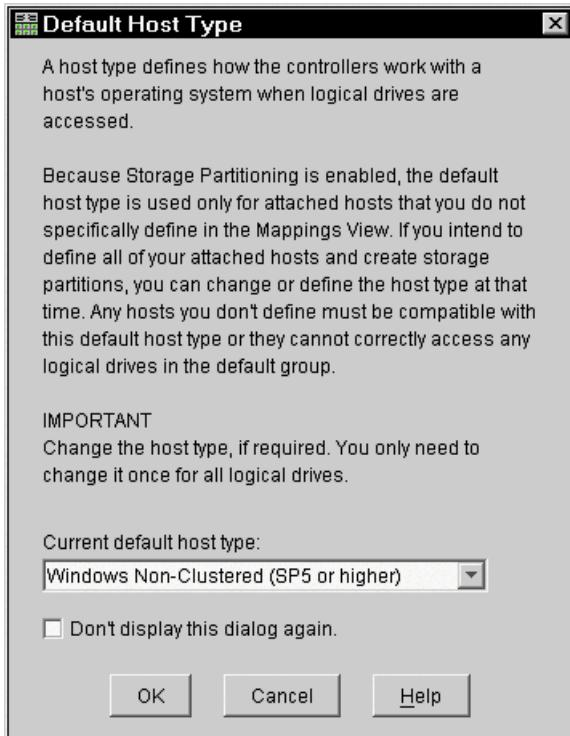

Figure 4-31 Default Host Type window
- a. If this is the first time you are creating a logical drive from this instance of the FAStT Client, the window shown in Figure 4-31 appears. The Current default host type should be set to **Windows Non-Clustered (SP5 or higher)**. You should only change this type if you attach hosts running the same operating system.